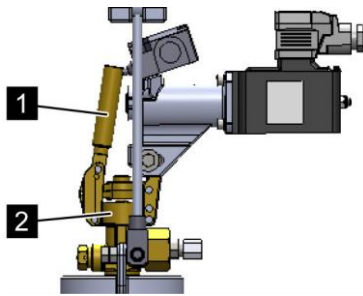

Fig. 143: Remove the valve lever
1. ➔ Unscrew the valve lever (Fig. 143/2) from the valve (Fig. 143/1) of the pilot container.